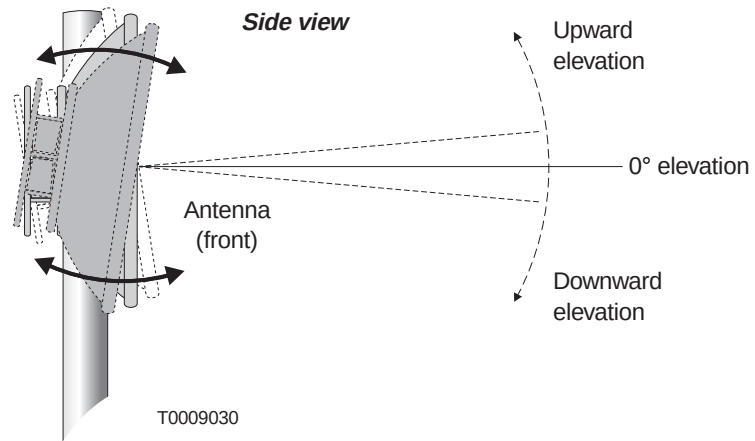

Figure 6-16 Antenna elevation adjustment (upward or downward adjustment)
To adjust the antenna elevation (upward or downward pointing direction), you rotate the antenna upward or downward, as illustrated in figure 6-16, until the elevation is set as desired.
1. Using the boresight for reference, rotate the antenna (by hand) as shown in figure 6-16 until you can see the HT in the vertical center of the boresight, with no shadow inside the top or bottom of the boresight. See figure 6-14.